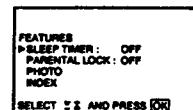

Fig. 19
- 3 Select "SLEEP TIMER" with **Δ+** or **▽-** and press OK. (See Fig. 19.) The time period option changes colour.